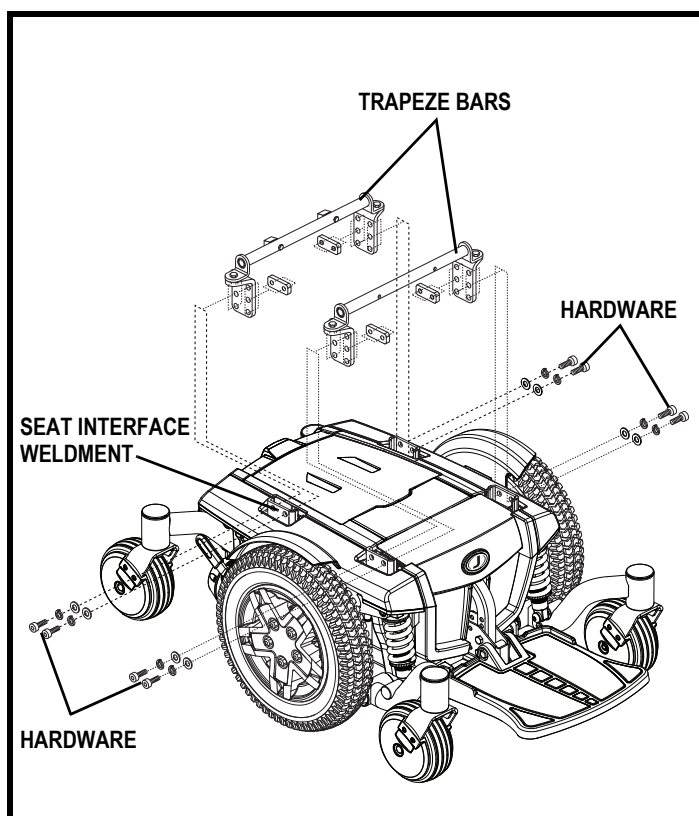

Figure 12. Seat Height/Angle Adjustment
7. Remove the hardware that attaches the trapeze bars to the seat interface weldments. **See figure 12.**